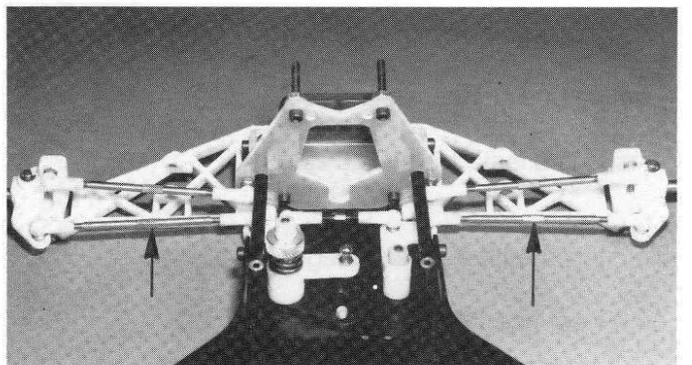

Fig. 31
□ **Fig. 31** Using a pliers, install both of the longer tie rod turnbuckles as shown. If you move the servo saver to the left and right it will be easier.